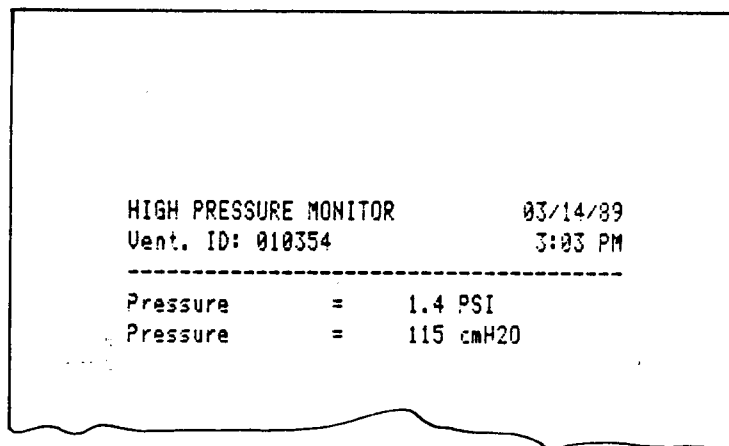

Figure 3.6.8.1-1. External High Pressure Monitor Printout
2. Press **EXT PRES** monitor keypad. The display will indicate the pressure in psi as well as cmH₂O. (See Figure 3.6.8.1-1 for the printout.)